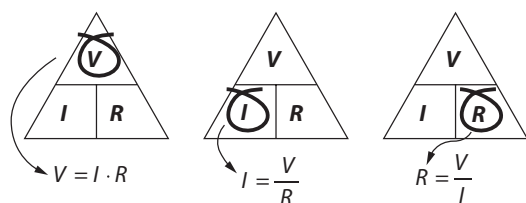

Figure 18.2. Ohm's law pyramid.
It is important to keep units consistent: if the voltage is measured in volts (V) and the resistance in ohms (Ω), the current will be given in amperes (A). By knowing any two of the values for the voltage, current or resistance, the third missing value can be calculated, as illustrated by the Ohm's law 'pyramid' in Figure 18.2.